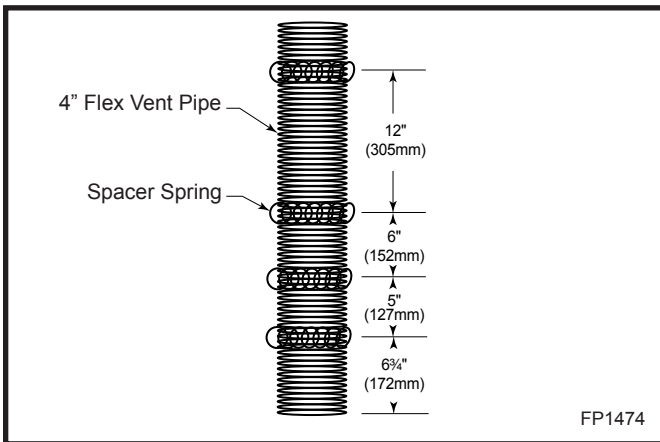

Fig. 19 Install spacer springs.
Install the four (4) spacer springs on the 4" flex vent pipe. When installing the spacer springs around the 4" pipe, stretch the spring to approximately 15" (381 mm), wrap the spring around the pipe and interlock the ends of the spacer spring approximately 2" (51 mm). Measure 6¾" (172 mm) from the end of the pipe. Place the next spring 5" (127 mm) from the previously installed spring. Place the next spring 6" (152 mm) from the last spring. Finally, place the last spring 12" (305 mm) from the last spring installed. (Fig. 19)